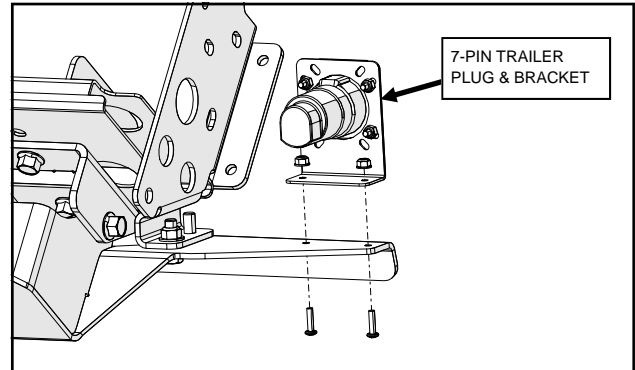

Fig. 3.2 (7-Pin Connector and Bracket)
- 3.2** Bolt on the 7-Pin trailer plug with mounting bracket found on Hydraulic Plow Kit on the Passenger side of the plow mount using (2) #10X3/4" Pan Head screws with (2) #10 Lock Nuts. See Fig. 3.2.